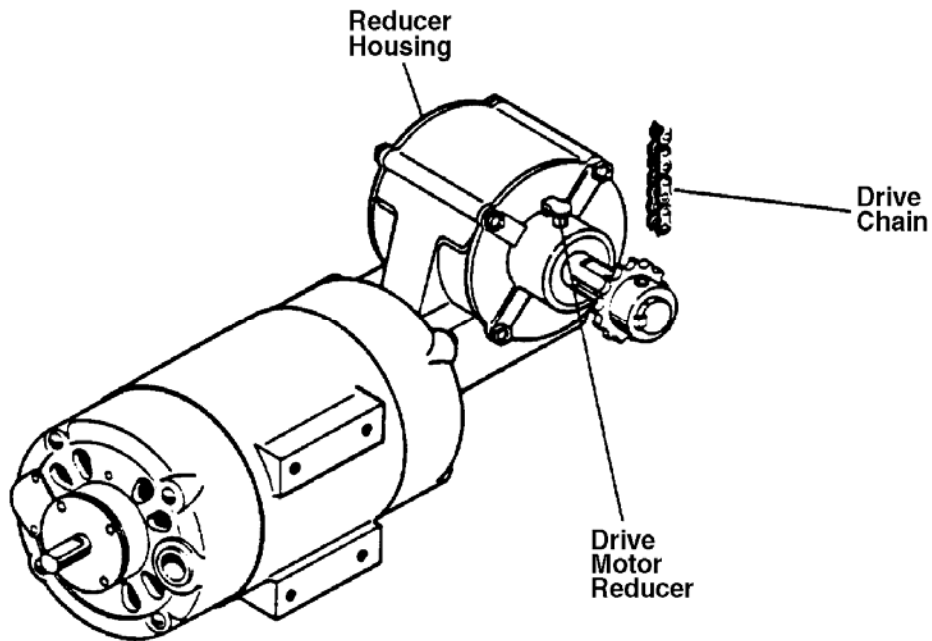

Figure 1-4. Drive shaft.
(b) Apply a moderate amount of AFP-8827 grease to the plastic drive shaft running gears. See figure 1-4.
e. **Perform Semi-Annual Preventive Maintenance Checks Services.** After it has been six months from the previous semi-annual PMCS, the operator performs semi-annual PMCS. The semi-annual PMCS consists of adding a moderate amount of AFP-8827 grease to the drive shaft thrust bearing. Refer to figure 1-4.